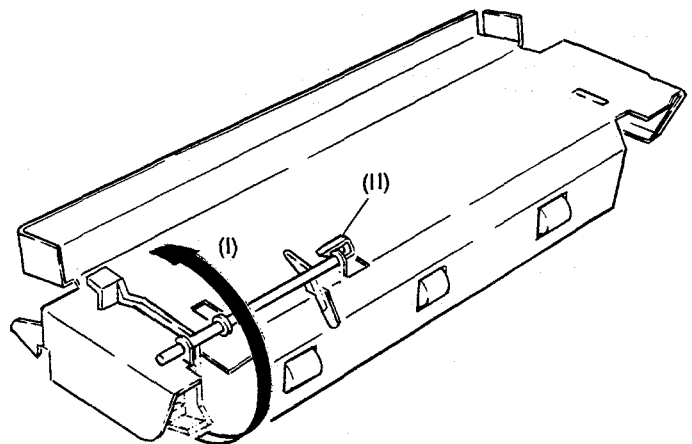

Fig. 8-10
- e. Push HFIN switch ② in direction of arrow (I), remove lock unit ①.
- f. Remove spring ③ and remove PS follower roller ④. (Remove the three in the same manner.)
- h. Remove lock spring ⑤.
- i. Pull lock arm (6) in direction of arrow (II), and remove it in direction of arrow (III).
- j. Remove HFIN switch ② as follows:
- ① Turn in direction of arrow (I) in Fig. 8-10 to extend pawl (II) which is hung on the plate.